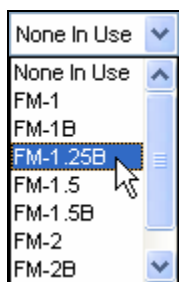

Figure 16.10.7D
- Use the drop down list to choose the type of flow meter that you are using (Figure 16.10.7D).